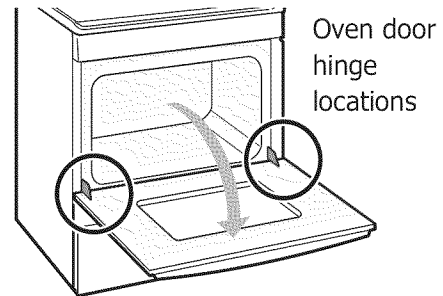

Figure 57: Door hinge location
1. Open oven door completely, horizontal with floor (See Figure 57).
3. Fully open the oven door, horizontal with floor (See Figure 57).